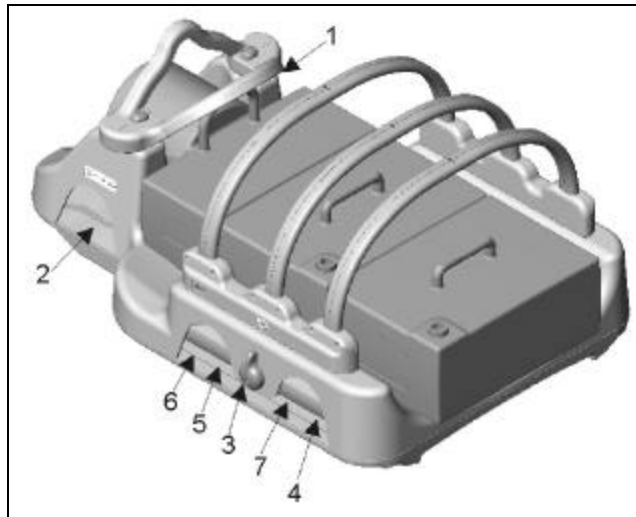
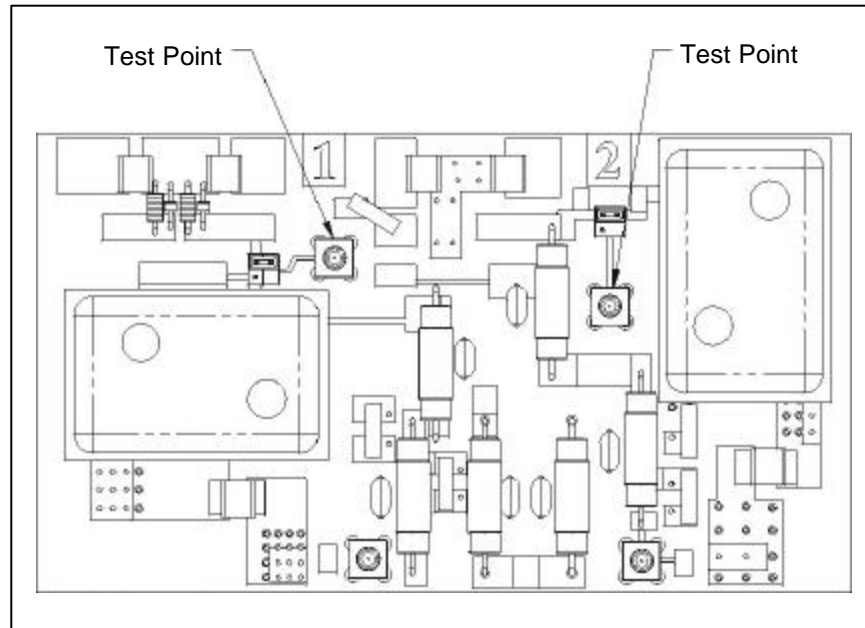

Figure 5: Coil, phantoms and channel tuning locations, with side panels removed.
Figure 6: Test points for test cable.
2. Remove the side panels from the side of the coil (see *Figure 5*).
1. Connect the test cable (SMB connector end) to the test point of channel 1 near Preamp 1 (see *Figure 6*).
11. Adjust the tuning capacitor for channel one (see *Figure 5* for tuning location) until the phase on the impedance analyzer is 0 degrees (± 5 degrees) at a **frequency of f0-10 kHz**.
1. Move the jumper near Preamp 2 to the Tune Mode position and connect the test cable to the test point of channel 2. Refer to *Figure 5* and *Figure 6*.
6. Adjust the tuning capacitor for channel 2 (see *Figure 5* for tuning location) until the phase on the impedance analyzer is 0 degrees (+/- 5 degrees) at **system frequency f₀**.
6. Adjust the tuning capacitor for channel 5 (see *Figure 5* for tuning location) until the phase on the impedance analyzer is 0 degrees (± 5 degrees) at **f = f₀ + 10 kHz**.
- Repeat the same procedure as described above for channel 6. Adjust the tuning capacitor for channel 6 (see *Figure 5* for tuning location) until the phase on the impedance analyzer is 0 degrees (+/- 5 degrees) at $f = f_0 + 10 \text{ kHz}$.
- Repeat the same procedure as described above for channel 7. Adjust the tuning capacitor for channel 7 (see *Figure 5* for tuning location) until the phase on the impedance analyzer is 0 degrees (+/- 5 degrees) at $f = f_0 - 10 \text{ kHz}$.
- Connect the test cable to the test point of channel 3 near the Preamp 3 (refer to *Figure 6*).
- Adjust the tuning capacitor for channel 3 (see *Figure 5* for tuning location) until the phase on the impedance analyzer is 0 degrees (+/- 5 degrees) at **system frequency f_0** .
- Repeat the same procedure as described above for channel 4. Adjust the tuning capacitor for channel 4 (see *Figure 5* for tuning location) until the phase on the impedance analyzer is 0 degrees (+/- 5 degrees) at $f = f_0 + 10 \text{ kHz}$.